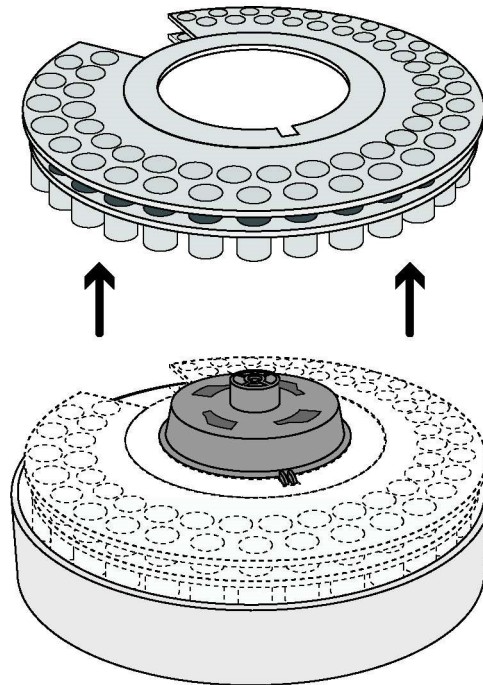

Figure 57 Removing the turret
- 6 Carefully lift the turret from the motor hub and remove it from the ALS (Figure 57). Avoid contact with the heat deflector and ALS casing when removing the turret.